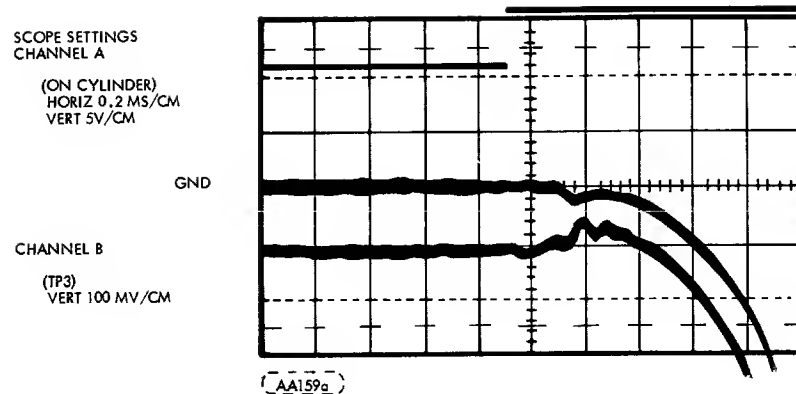
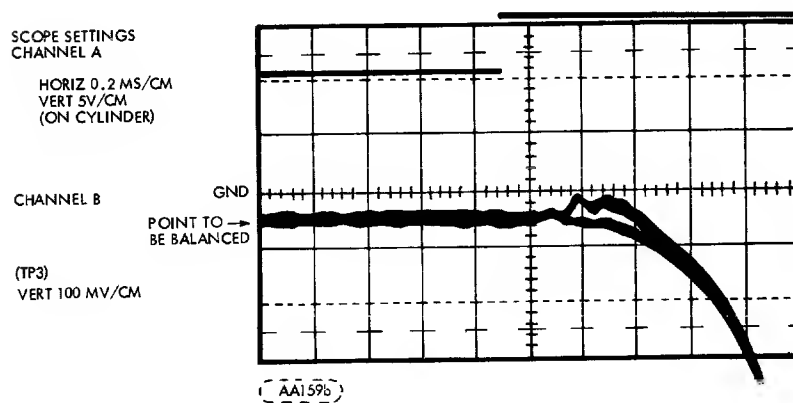

FIGURE 6-16A. ONE TRACK SEEK UNBALANCED
FIGURE 6-16B. ONE TRACK SEEK BALANCED
21. Perform an alternate seek from cylinder 200 to 201 (100 to 101 for 100 TPI units). Sync oscilloscope with "On Cylinder" signal on exerciser. Monitor TP3 and adjust potentiometer R74 on preamp board (see Figure 6-14) so that the amplitudes are balanced (in relationship to each other) within ± 100 mV of logic ground. Figure 6-16a shows waveforms unbalanced and Figure 6-16b shows them balanced.